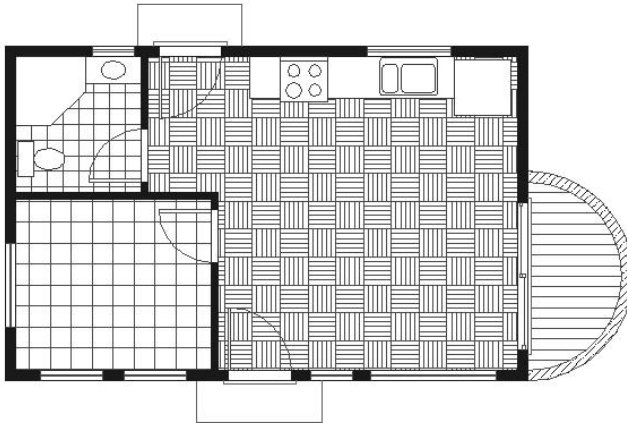

FIGURE 9.21: The hatched balcony wall
9. Right-click, choose Preview, right-click again, and then click OK. A diagonal crosshatch pattern is placed on the balcony wall (see Figure 9.21).